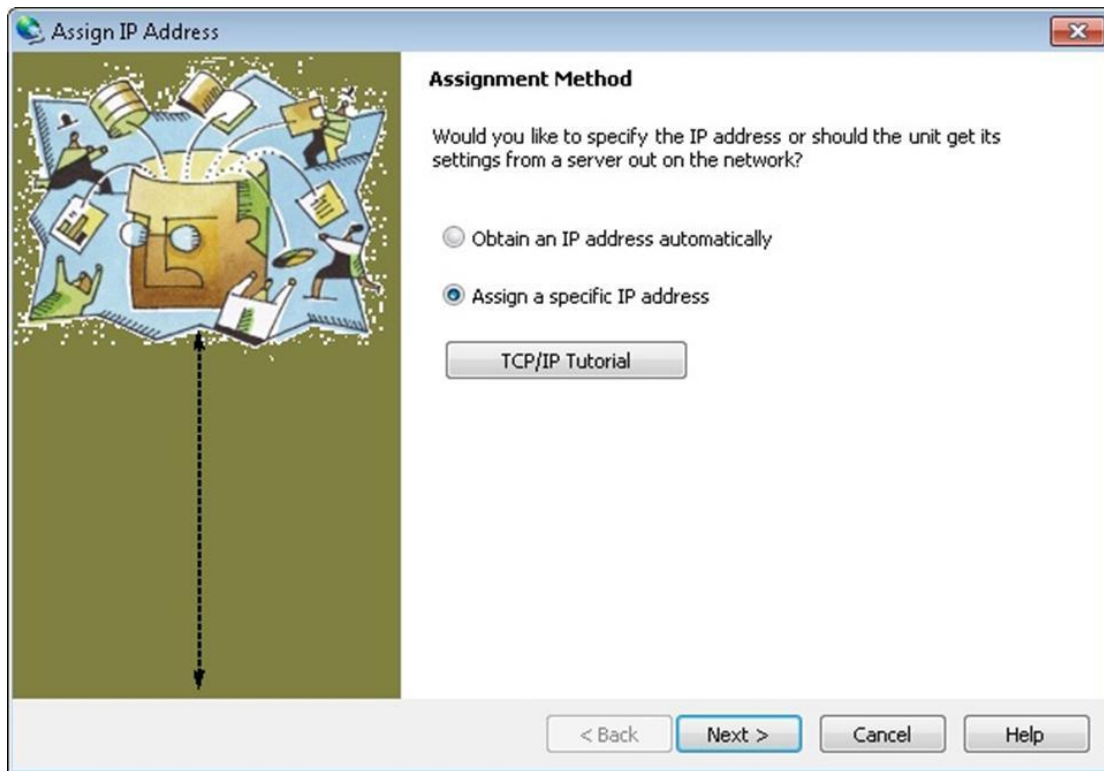

Figure A-22. Set up IP address – Assign specific IP address
7. In the screen that appears, select **Assign a specific IP address** and click **Next**. See Figure A-22 below.